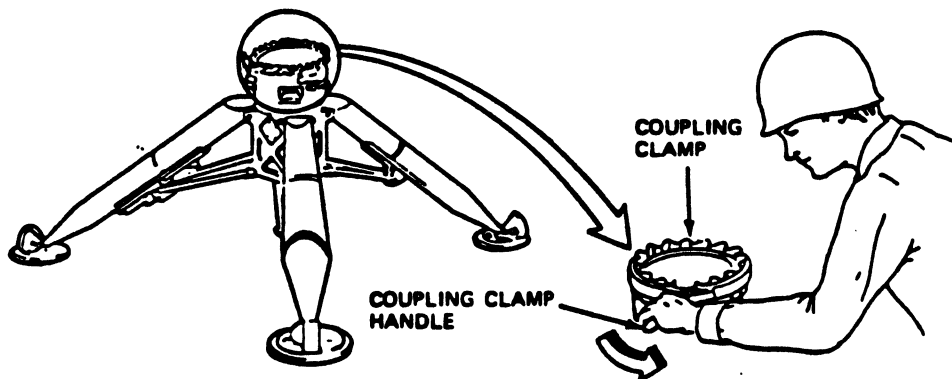

Fig 2-5. Opening the coupling clamp.
Step 4. Open the coupling clamp by pulling the coupling locking clamp handle out (fig 2-5).